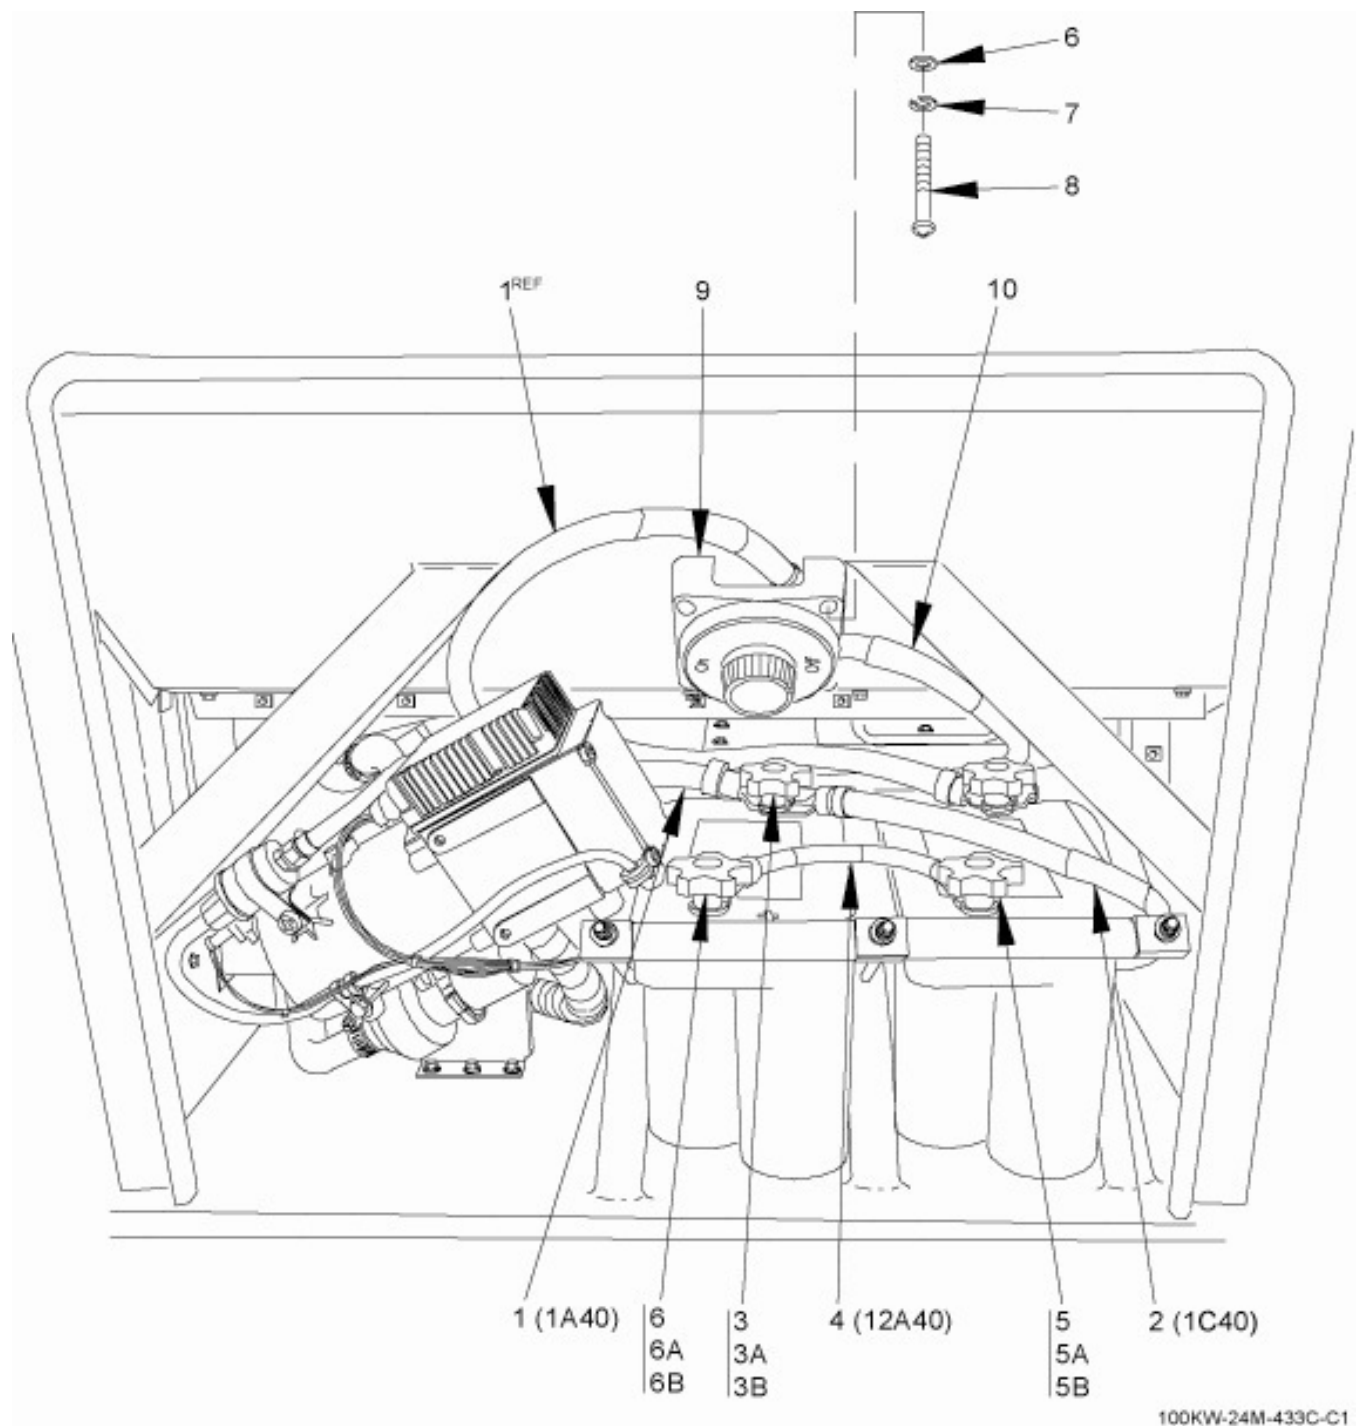

Figure 1. Battery Disconnect Switch.
4. Tag cables and remove battery terminal knob (Figure 1, Item 3), lock washer (Figure 1, Item 3A), and flat washer (Figure 1, Item 3B) that secure battery cable 1A40 (Figure 1, Item 1) and battery cable 1C40 (Figure 1, Item 2) to battery BT2 (left battery) negative terminal. Remove battery cables 1A40 and 1C40.
5. Tag cable and remove battery terminal knob (Figure 1, Item 6), lock washer (Figure 1, Item 6A), and flat washer (Figure 1, Item 6B) and battery terminal knob (Figure 1, Item 5), lock washer (Figure 1, Item 5A), and flat washer (Figure 1, Item 5B) that secure battery cable 12A40 (Figure 1, Item 4) to battery BT1 (right battery) negative terminal and battery BT2 (left battery) positive terminal. Remove battery cable 12A40.
6. Remove four screws (Figure 1, Item 6), lock washers (Figure 1, Item 7), and washers (Figure 1, Item 8) and pull battery disconnect switch (Figure 1, Item 9) away from wall.
7. At rear of battery disconnect switch (Figure 1, Item 9), tag and disconnect battery cable 1A40 (Figure 1, Item 1) and battery cable 2A40 (Figure 1, Item 10).
8. Remove battery disconnect switch (Figure 1, Item 9).
1. Position battery disconnect switch (Figure 1, Item 9) near where it is to be installed. Remove tags and connect battery cable 2A40 (Figure 1, Item 10) and battery cable 1A40 (Figure 1, Item 1).
2. Install battery disconnect switch (Figure 1, Item 9) with four washers (Figure 1, Item 6), lock washers (Figure
- 1, Item 7), and screws (Figure 1, Item 8).
3. Install battery cable 12A40 (Figure 1, Item 4) on battery BT1 (right battery) negative terminal and battery BT2 (left battery) positive terminal and secure with flat washer (Figure 1, Item 5B), lock washer (Figure 1, Item 5A), and battery terminal knob (Figure 1, Item 5), and flat washer (Figure 1, Item 6B), lock washer (Figure 1, Item 6A), and battery terminal knob (Figure 1, Item 6). Remove tag from battery cable.
4. Install battery cable 1A40 (Figure 1, Item 1) and battery cable 1C40 (Figure 1, Item 2) on battery BT2 (left battery) negative terminal and secure with flat washer (Figure 1, Item 3B), lock washer (Figure 1, Item 3A), and battery terminal knob (Figure 1, Item 3). Remove tags from battery cables.